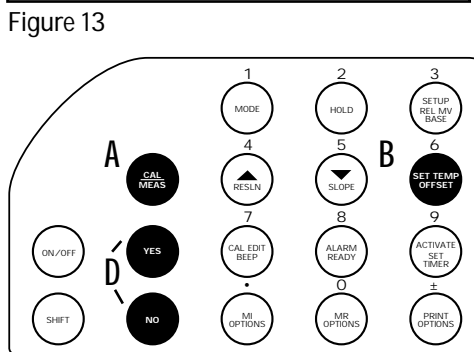

Figure 13
1. Make sure you are in the measurement function. You can be in any mode (pH, mV, rel mV, or Ion). Press SET TEMP to select temperature mode. TEMP is displayed at the bottom of the display (Figure 13).